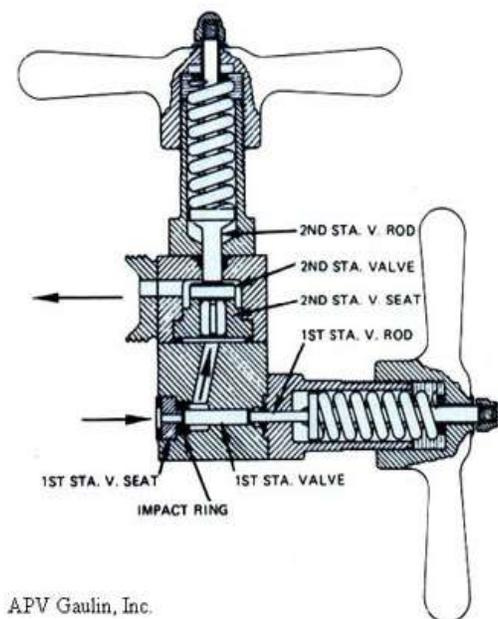

Fig. 7.6 A two stage homogenizer
- Any slight grooving due to wear and tear may reduce the effectiveness. Hence, two valves are used in series, which is called a two stage homogeniser. A two stage homogenizer is shown in Fig. 7.6.